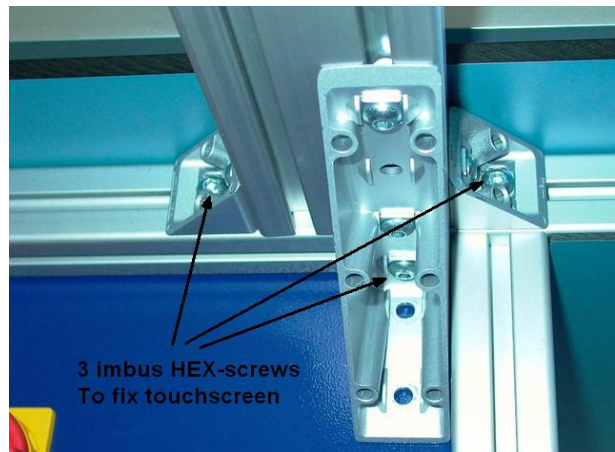

Figure 4: Fix touchscreen
8. Push the 3 cables from the touchscreen carefully in the slit. Fix the arm with the touchscreen with 3 imbus HEX-screws on the electric cabinet (Figure 4).